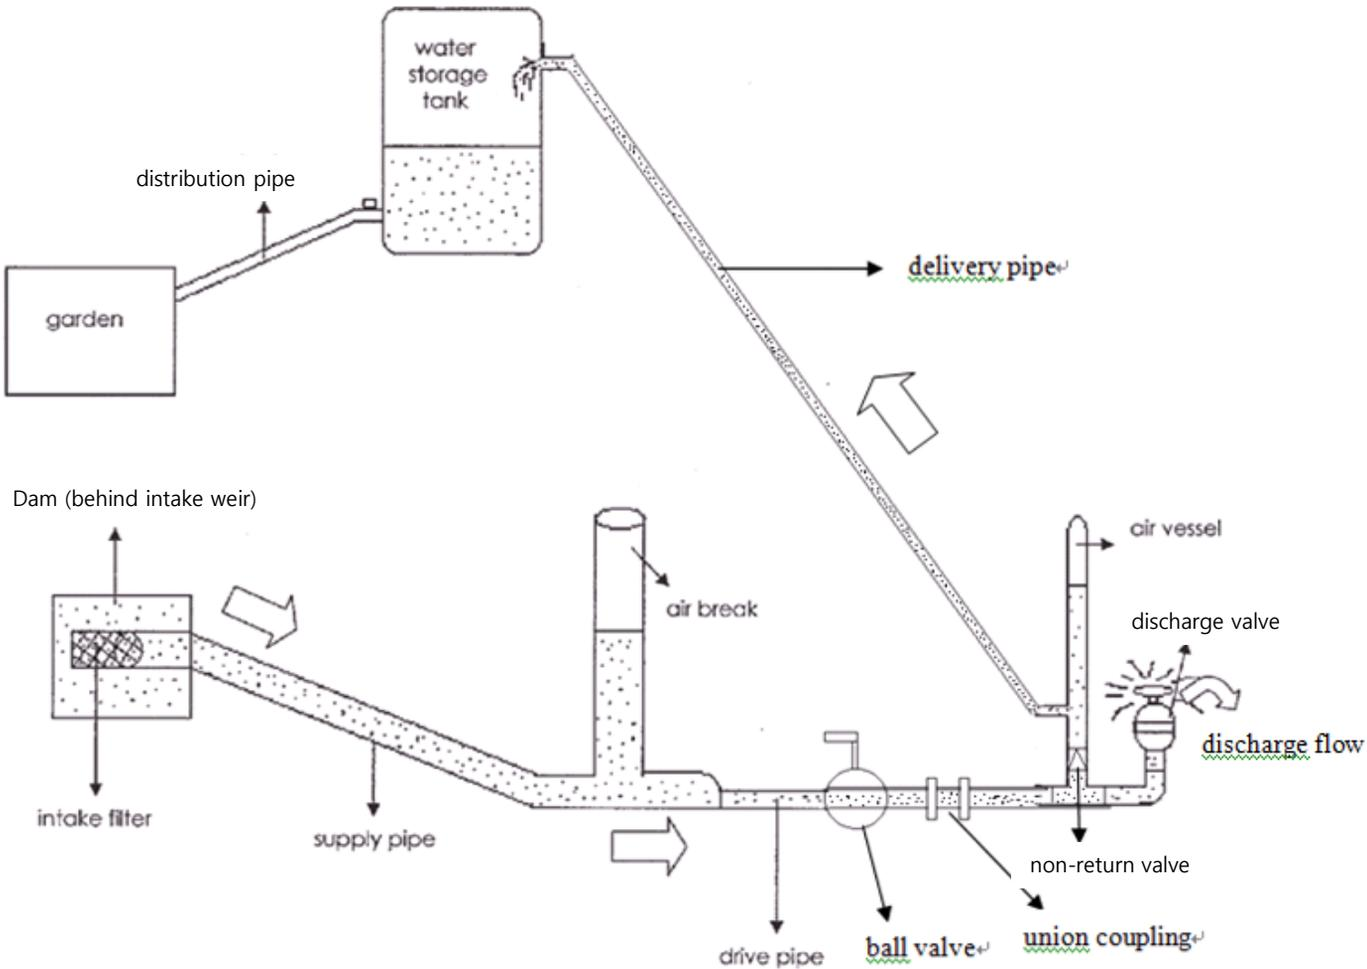

Figure 1. An overall schematic of the Alcock Ram-Pump (ARP) system
- Fig. 1 shows an overall schematic of the Alcock Ram-pump system. It informs you of the names and positions of different parts that together form the pump system..